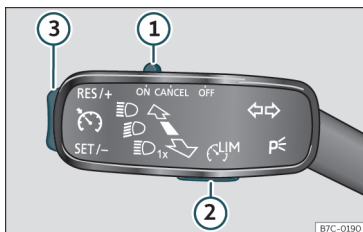

Fig. 204 On the left of the steering column: control and buttons to operate the speed limiter.
>>> Fig. 204 ① of the turn signal lever into position **CANCEL** or the third lever into pressure point **CANCEL** or press button ② on any lever.